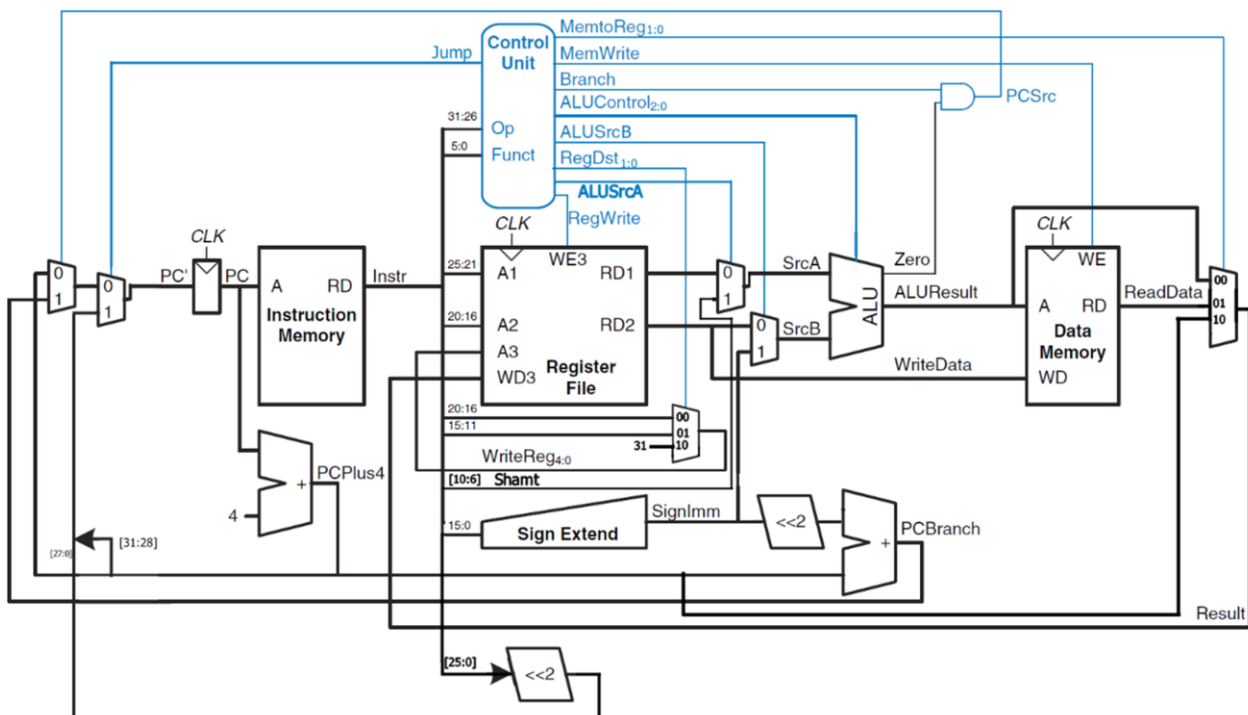

Figure 1: Datapath for Original12
- c) Study the code and convince yourselves that the *datapath* module exactly corresponds to Figure 1 and *controller* module (including *maindec* and *aludec* modules) to Table 1 and Table 2. In the decoder tables, X means it is a “don’t care”. That is, it does not matter if it is 0 or 1. Although srl is an R-type instruction, in the Table 1, we added a new row for srl since its ALUSrcA bit is different than other R-type instructions.
- g) **[2 Points]** Make some observations on the architecture (see Figure 1).